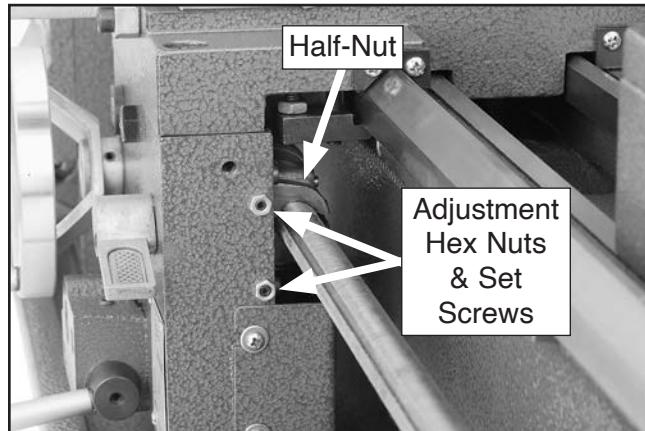

Figure 80. Half-nut adjustment components.
3. Loosen the two adjustment hex nuts shown in **Figure 80**, then adjust the set screws in small increments.